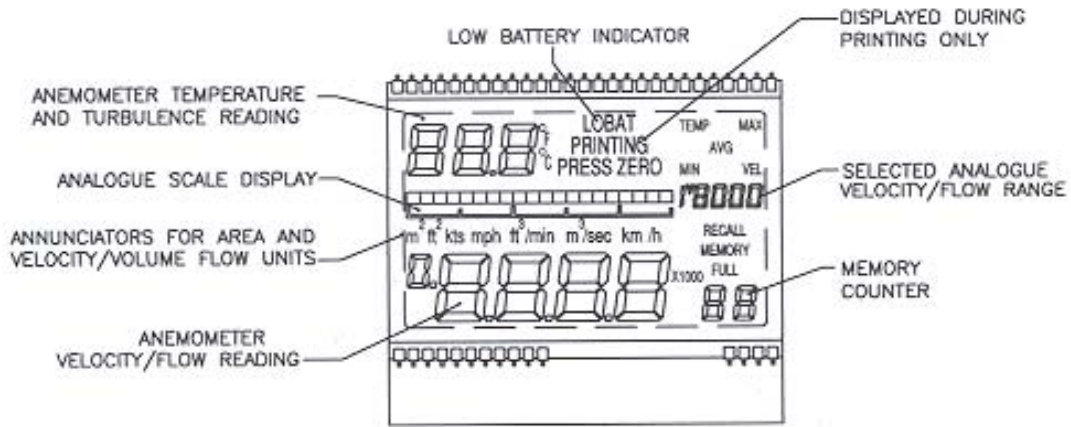

Fig 1 LCD Display
This is a custom Liquid Crystal Display (LCD) and FIG.1 shows the display's principle features.
Note: FIG.1 shows the display with all the segments illuminated, this is a condition which, will not occur in normal use but only during the display test (see section 8.1).
The analogue scale line on the display (see FIG.1) will flash three times to show that this command has been accepted before the display illuminates. Subsequently, the analogue scale line will continue to pulse as a reminder that the 'auto off' facility has been disabled.
- (1) Power the instrument up (see section 5.1); the instrument will power up in the 'read' mode. The temperature will be displayed on the 3-digit display in the top left hand corner of the display area (see FIG.1).
- (2) The units of temperature measurement (⁰C/⁰F) are displayed on an annunciator adjacent to the displayed temperature reading. The units may be changed by sequentially pressing the  key.
- (1) Power the instrument up (see section 5.1): the instrument will power up in the 'read' mode. The flow reading will be displayed on the main 4-digit display at the bottom of the display area (see Fig.1).
- (2) The units for velocity measurement are displayed on an annunciator above the displayed flow reading. Select the units required, either m/s, km/h, kts (knots), mph or ft/min by sequentially pressing the  key.
- (3) Select the required analogue scale display range (see FIG.1) by pressing the  key.